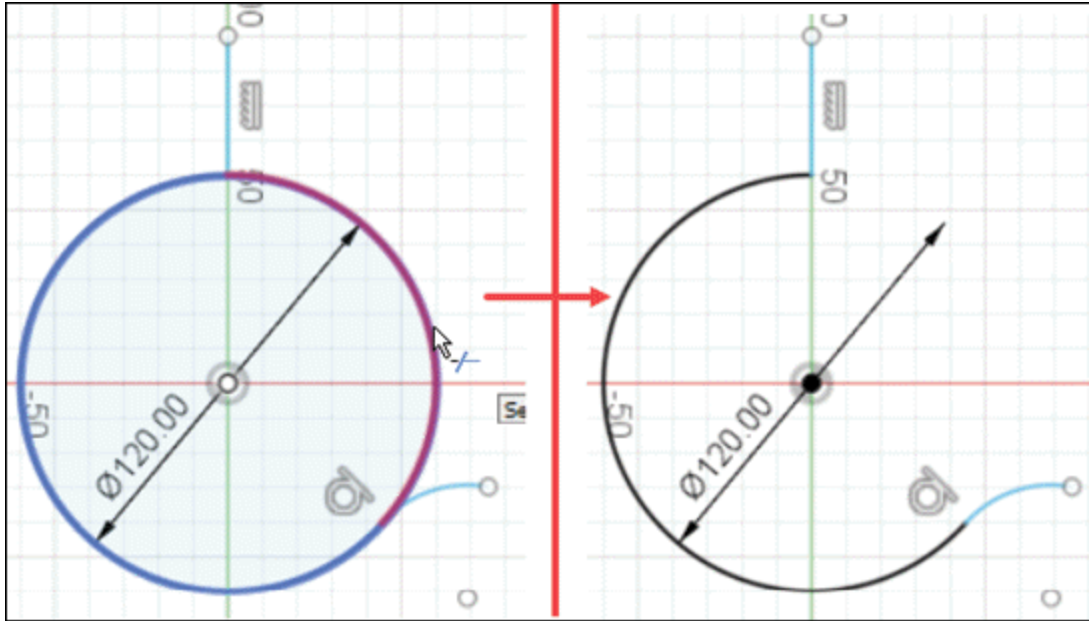

Figure-93. Trimming circle
- Click on the **Trim Entities** tool and trim the portion between the straight line and the arc; refer to Figure-93.